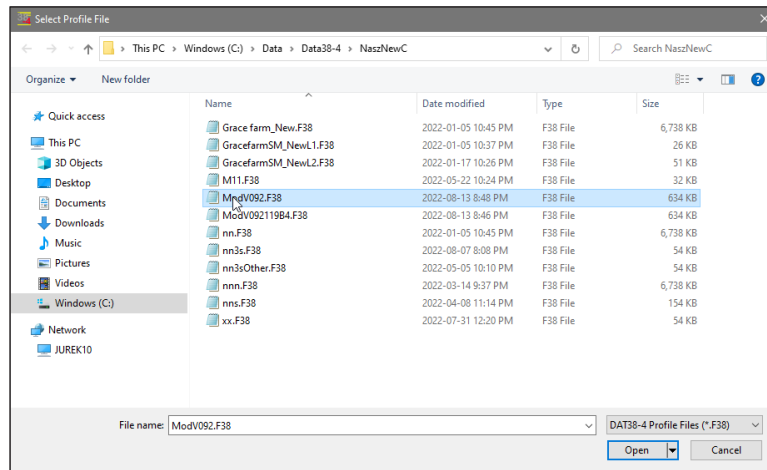
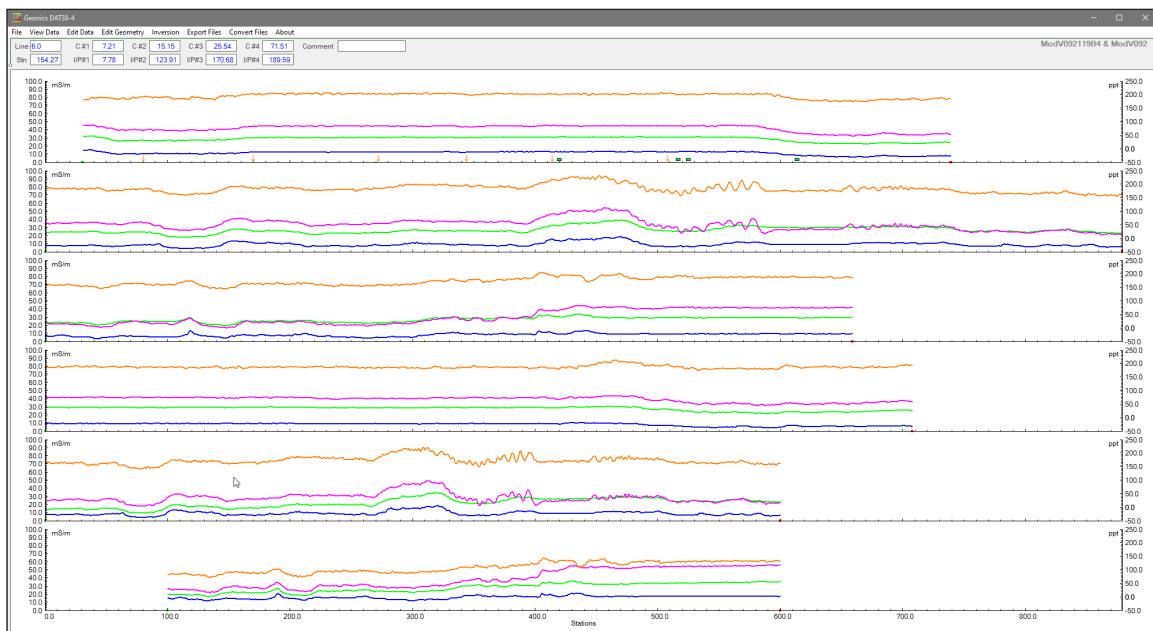

Figure 3.2 Select EM38-4 Profile File dialog
Figure 3.5 DAT38-4 screen after additional file is loaded
- **File Selection:** The Select Profile File dialog appears (Figure 3.2). Navigate to the desired directory, select the file, then click **Open** (or double-click, or press Alt+O).
- The file selection dialog (Figure 3.2) appears. After choosing a file, a new stacked profile window appears below the previous data set (Figure 3.5).